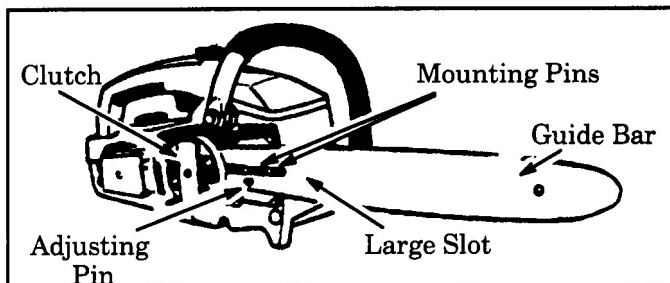

Figure 7
- Mount the guide bar with the large slot over the mounting pins and the small adjusting pin through the small hole in the bar. Figures 7 & 8.